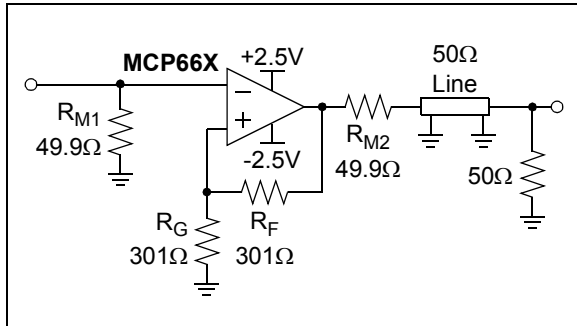

FIGURE 4-10: 50Ω Line Driver.
Differential gain (DG) and differential phase (DP) refer to the non-linear distortion produced by an NTSC or a phase-alternating line (PAL) video component. Table 1-2 and Figure 2-34 show the typical performance of the MCP661, configured as a gain of +2 amplifier (see Figure 4-10), when driving one back-matched video load (150Ω, for 75Ω cable). Microchip tests use a sine wave at NTSC's color sub-carrier frequency of 3.58 MHz, with a 0.286V_{P-P} magnitude. The DC input voltage is changed over a +0.7V range (positive video) or a -0.7V range (negative video).
Figure 4-10 shows the MCP661 driving a 50Ω line. The large output current (e.g., see Figure 2-18) makes it possible to drive a back-matched line (R_{M2} , the 50Ω line and the 50Ω load at the far end) to more than ±2V (the load at the far end sees ±1V). It is worth mentioning that the 50Ω line and the 50Ω load at the far end together can be modeled as a simple 50Ω resistor to ground.